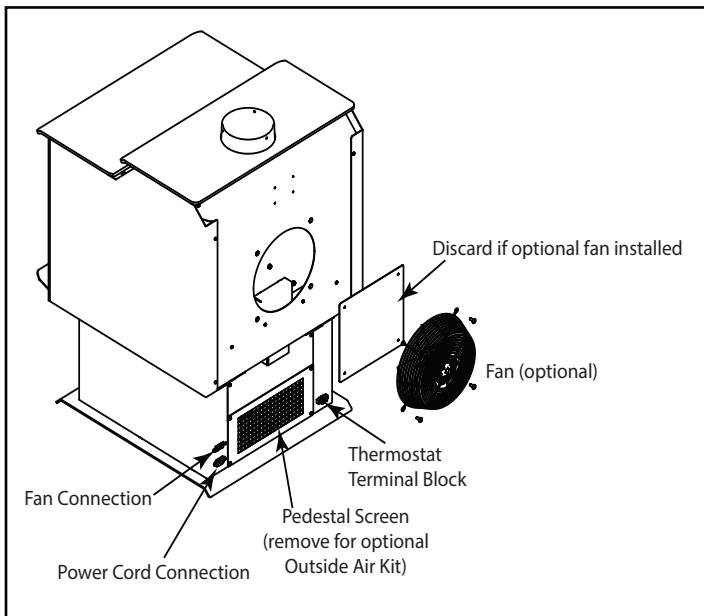

Figure 5.3
2. Using a #2 Philips screwdriver, remove the pedestal screen cover from the rear of the pedestal and replace with the Outside Air Cover Plate. **See Figure 5.3.**